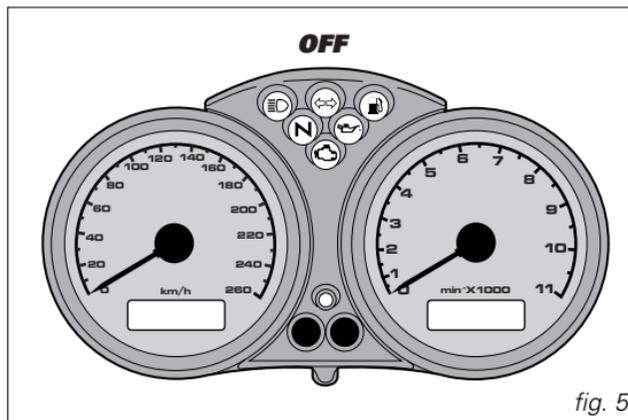

fig. 5
When the ignition key is turned to **ON**, the instrument panel carries out a **Check** of all instruments (pointers, display, lights) (see fig. 5 and 6).
Turn the key to **ON** and press (B) (fig. 5) within 5 seconds to change instrument panel lighting power.